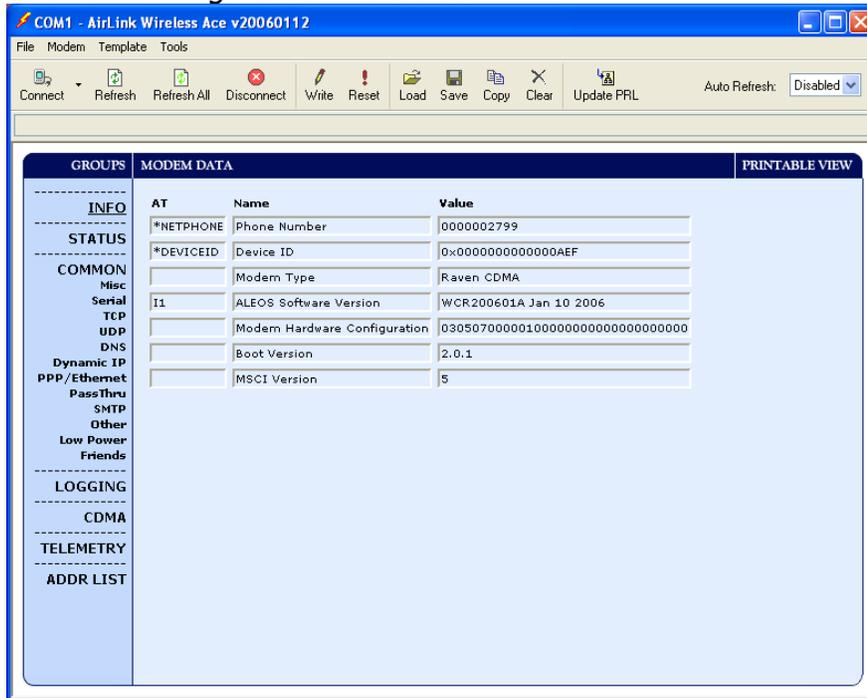

Figure 55 Info Screen
11. Once you have connected to the modem, you should see the info screen as shown in Figure 55 Info Screen.